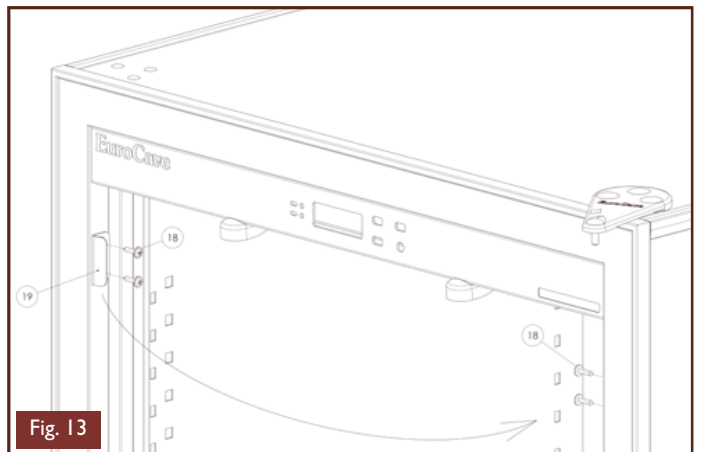

Fig. 13
- Loosen the four screws (18), see Fig. 13.
- Locate the foot (19) on the other side of the housing using the screws (18) see Fig.13